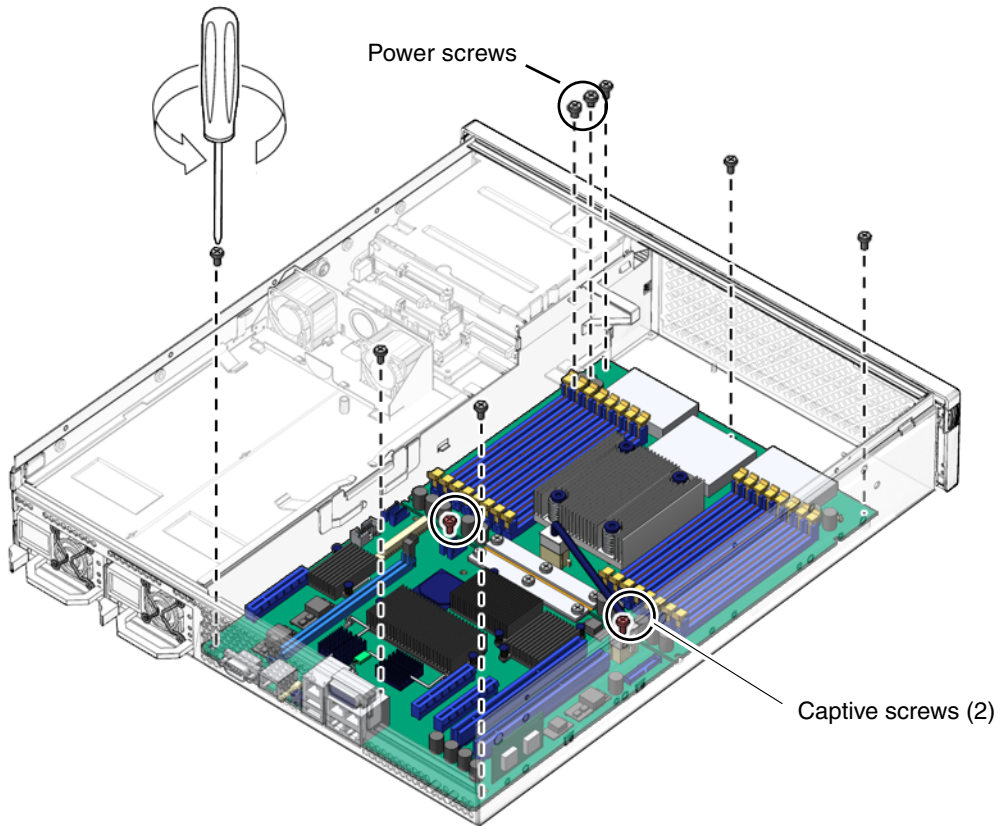

FIGURE 4-24 Removing the Motherboard Assembly Screws
- 5. Remove the two power screws and six other screws that secure the motherboard assembly to the chassis (FIGURE 4-24).**
6. Loosen the two captive screws at the center of the motherboard assembly (FIGURE 4-24).